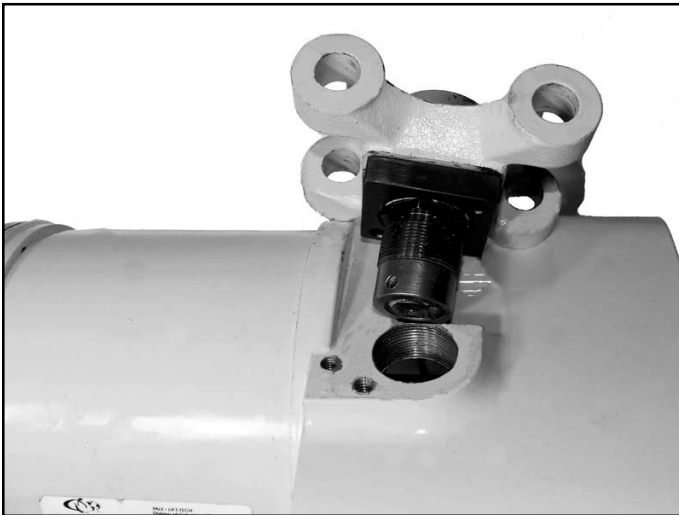

Figure 7-20. Removing Suspension Lug (1/4 thru 1 Ton Models)
(1) On 1/4 thru 1 ton models, remove screw securing suspension bushing keeper. Remove suspension lug using an extra thin 1-1/4" open end wrench to unscrew suspension bushing from frame. (See fig. 7-20).
(2) On 2 ton models, remove three hex socket head screws securing the two lock plates to block at top of frame and pull out locks. Remove suspension lug, using an extra thin 1-1/4" open end wrench to unscrew suspension bushing from block. Instructions for removing block from frame are given in paragraph b. (2).
(3) On 3 ton models lug bolt is removed in same manner as hook. See paragraph 7-3. b. (3).